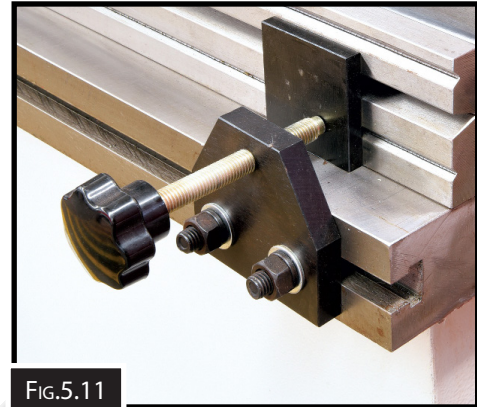

FIG.5.11
4. Press "Service" Button (Fig 5.11)
2. Loosen the die clamps. (Fig.5.11)